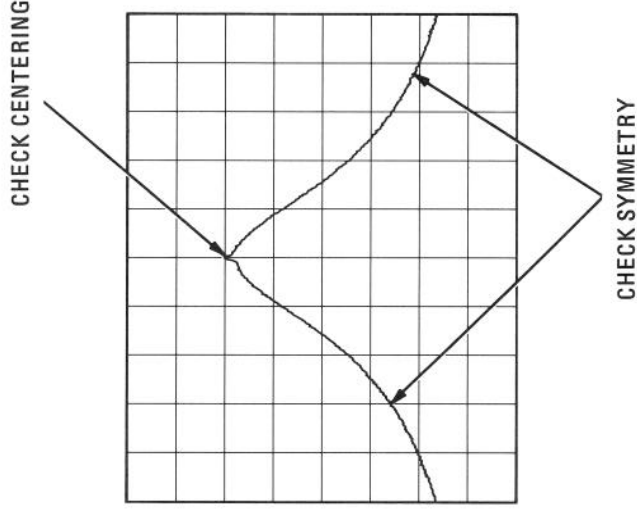

Figure 7-13. Adjusting Crystal Symmetry and Crystal Centering
14. Adjust A13C38 SYM and A13C54 CTR for a centered and symmetrical bandpass as shown in Figure 7-13. Adjust A13C54 CTR for minimum signal amplitude.